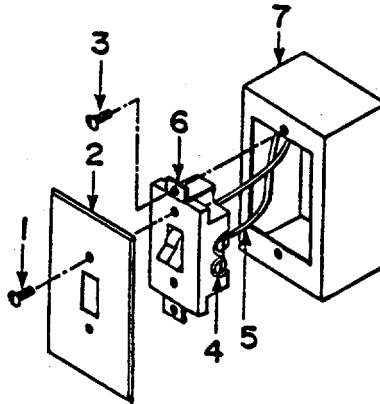

Figure 4-53. Wall Lamp Switch Assembly (Single)
- a. Inspect. (See Figure 4-53.)
- (1) Check darkroom wall and editorial room lamp switches for proper operation.
- (2) Inspect darkroom wall and editorial room switch-box cover for secure mounting.
- b. Replace Wall Lamp Switch (Single). (See Figure 4-53.)
4-42. **WALL LAMP SWITCHES ASSEMBLY.** - Continuedb. Replace Wall Lamp Switch (Single). - Continued. (See Figure 4-53.)